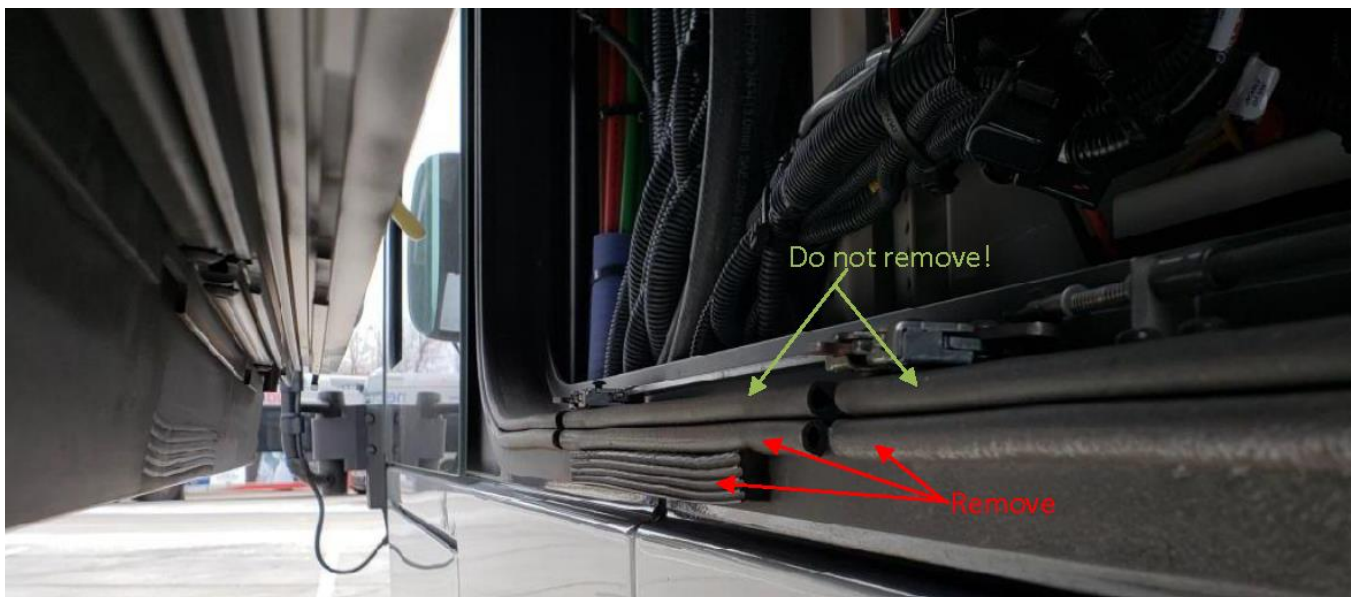

Figure 2: Remove Extra Seals (If Present)
- b. Remove any additional seals from the subframe by carefully peeling seal off and using a scraper; remove any adhesive left on the subframe. Do not remove inner most D-seal! See Figure 2.